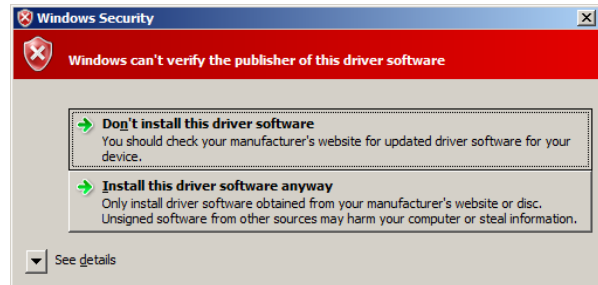

Figure 6: Accept security warning
8. If Windows raises a security flag similar to that in Figure 6, select 'Install this driver software anyway'.